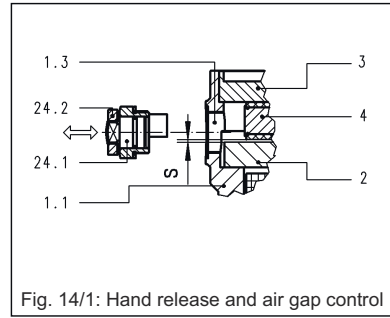

Fig. 14/1: Hand release and air gap control
1. Remove the two covers (23) located opposite each other on the circumference of the solenoid housing (1.1) (see Fig. 14/1).
2. Screw the cams (24.1) with the threaded bush into the bores of the covers (23), making sure they are correctly positioned (see figure to the right). Apply Loctite 243 to secure the cams.
3. Insert the hand release lever (24.2) into the square socket provided in the cams (24.1). The hand release can be operated by pushing the lever (24.2) in one direction (see Fig. 14/1).
Key to Fig. 14/1: